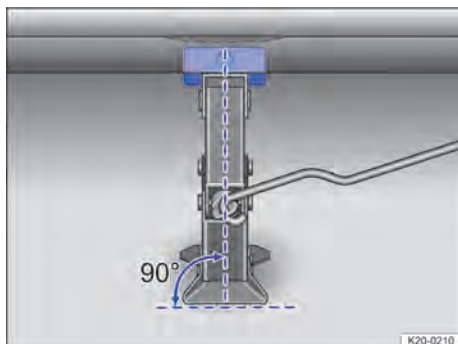
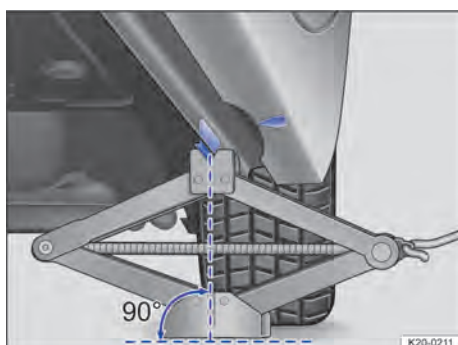

Fig. 216 Jack at the rear on the left-side of the vehicle
Fig. 217 Jack at the rear on the left-side of the vehicle
9. Make sure that the entire surface of the foot of the jack is resting securely on the ground and that it is positioned vertically directly beneath the jacking point → Fig. 216 and → Fig. 217.
10. Position the jack and simultaneously continue to crank the claw up until it is in position around the vertical rib underneath the vehicle → Fig. 217.